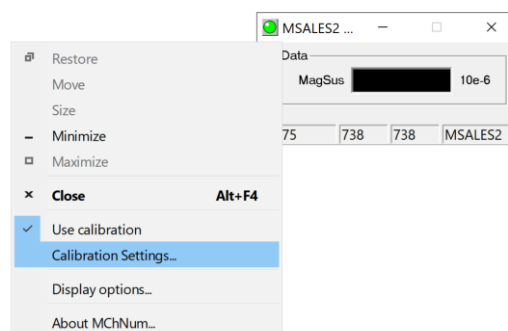

Figure 4-15 Open Calibration Settings window from MChNum
2. In the **Acquisition** panel, turn **Time** sampling **On**. Left click on the Green LED  in the upper left corner of the **MChNum** window and click on **Calibration Settings...** (**Figure 4-15**).
7. Enter **5000** (or the value stamped on the puck) as the **Reference** for the **Second Point** in the Calibration Settings window (**Figure 4-15**). Click **Sample....** Wait until the bar loads. After loading, a new value will appear in the **Value** for the **Second Point**.